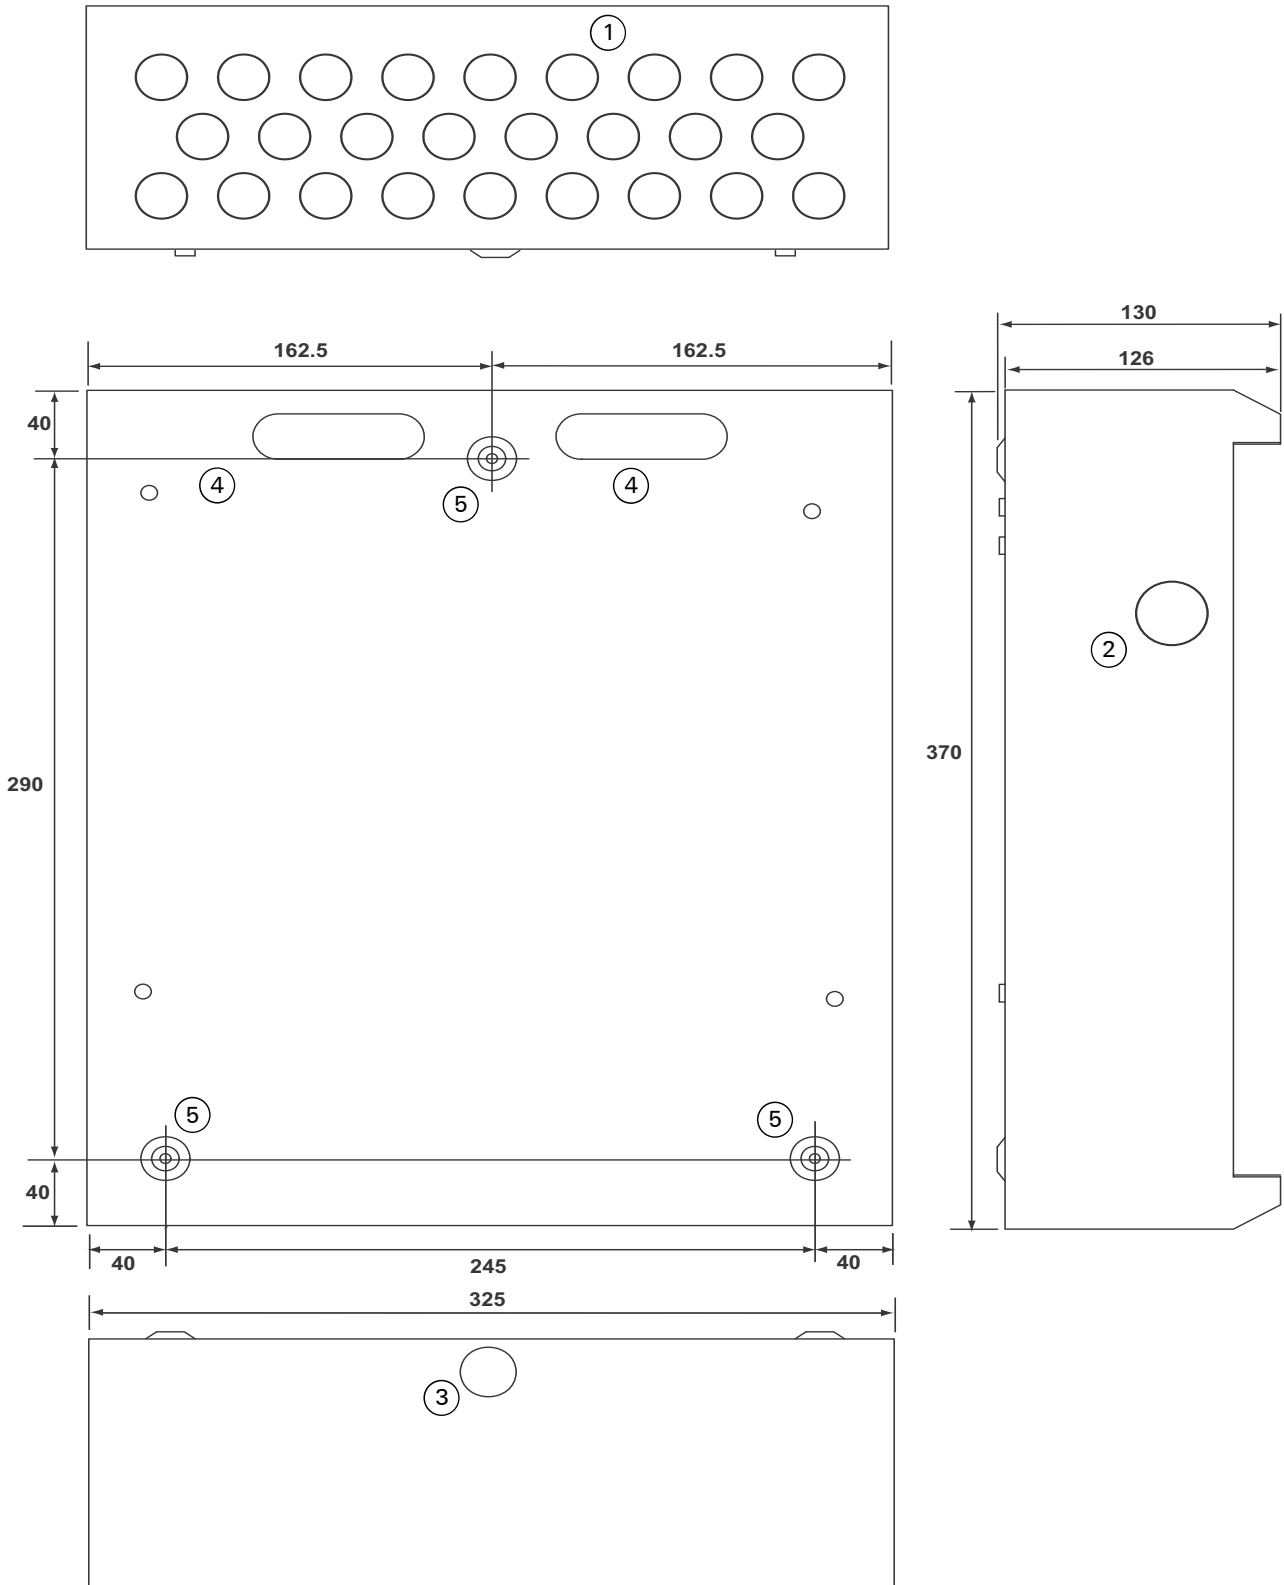
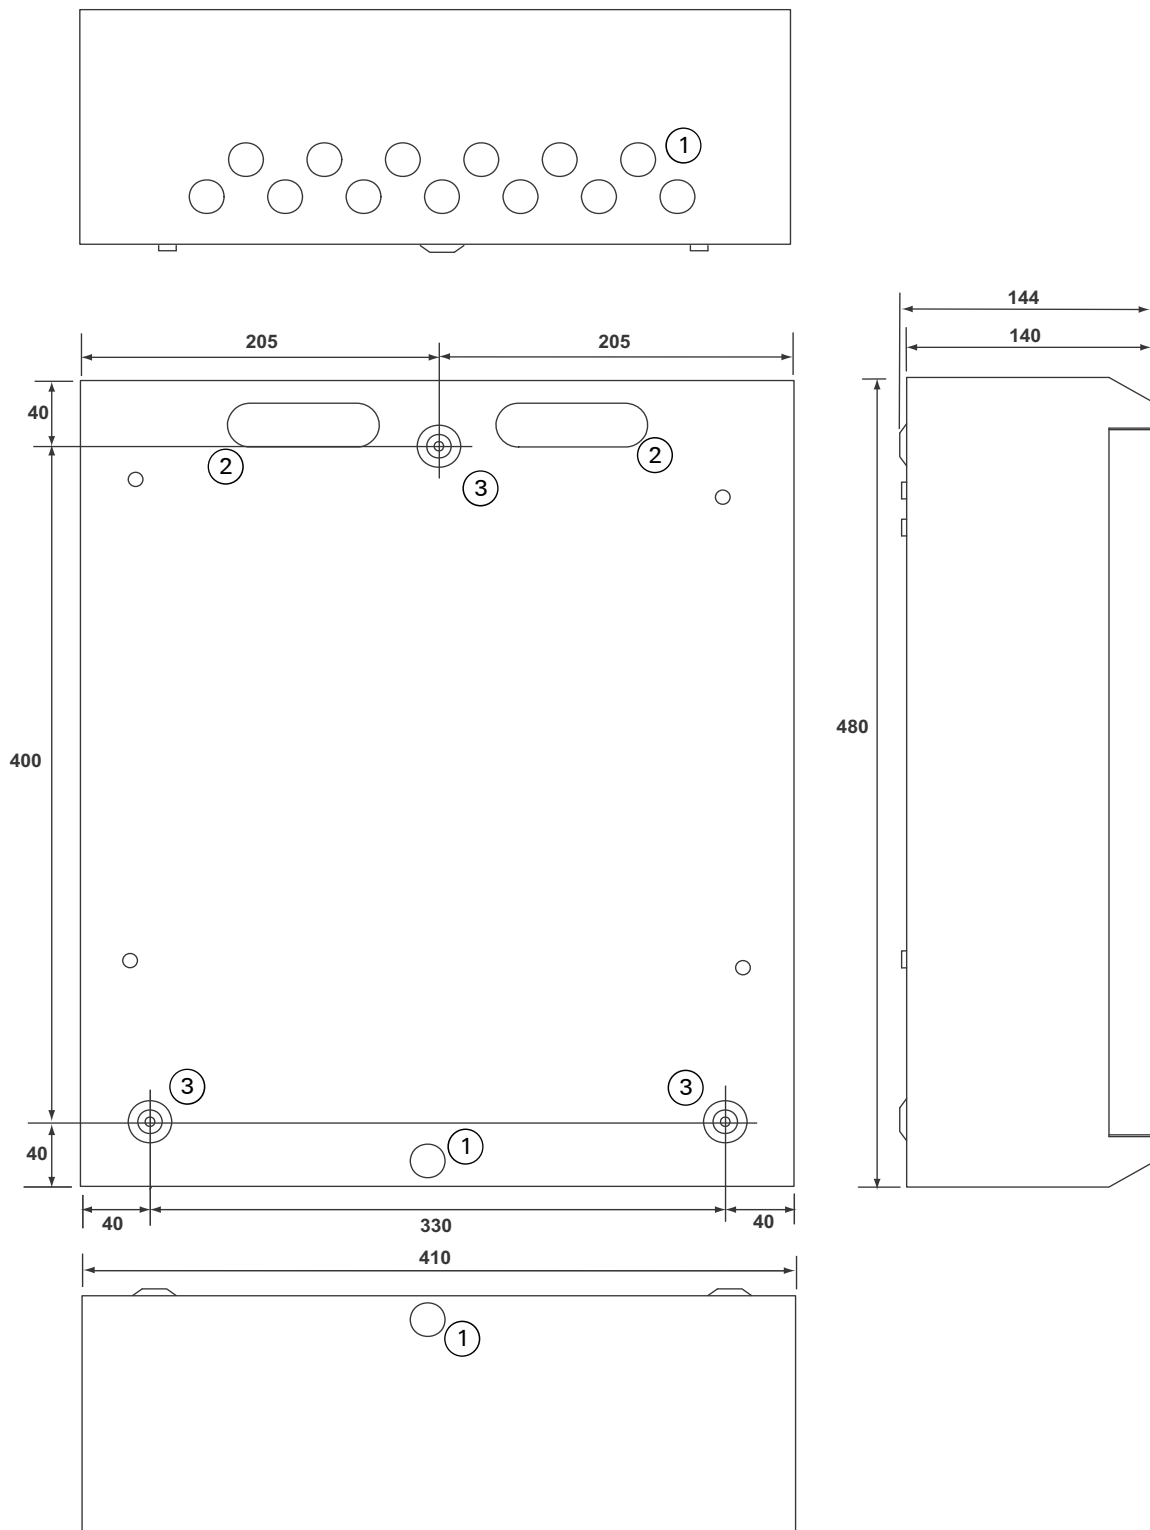

Fig. 4: Overall and Fixing Dimensions – FireClass 32RA Repeater
Fig. 6: Overall and Fixing Dimensions – FireClass 64-2, 240-2, Repeaters 64RA and 240RA
The control panel is designed for wall mounting. Typically screws and rawlplugs in drilled holes will be used. The screw hole positions are shown in Fig. 4 to Fig. 6.
- FireClass 32RA, : Fig 4.
- FireClass 64-2, FireClass 240-2, FireClass 64 RA, FireClass 240 RA: Fig .6.